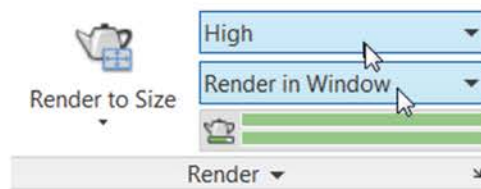

Fig. 16.27 Setting the form of rendering to High, Render in Window
3. Select **High** from the **Render Presets** menu in the sub **Visualize/Render** panel (Fig. 16.27).